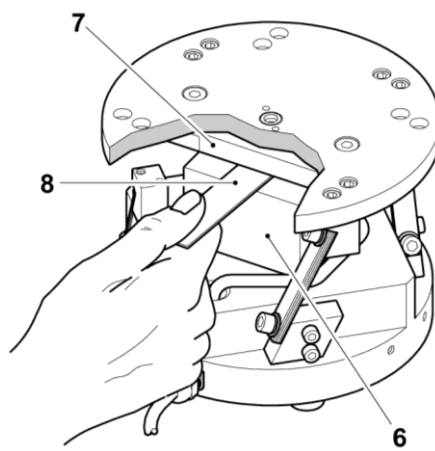

Figure 20
4. Use a feeler gauge (8) to set the air gap between the magnetic coil (6) and the anchor bolt (7) to between 0.3mm and 0.5mm (see Figure 20)